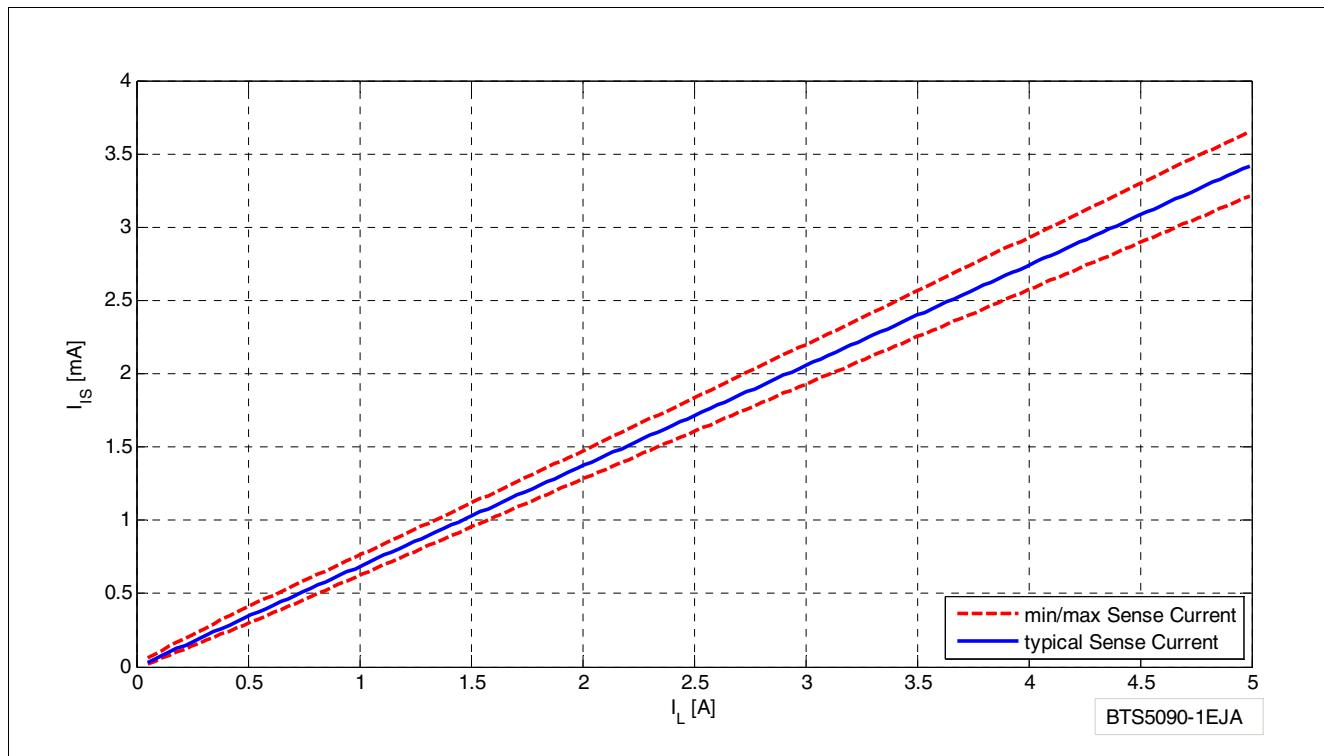
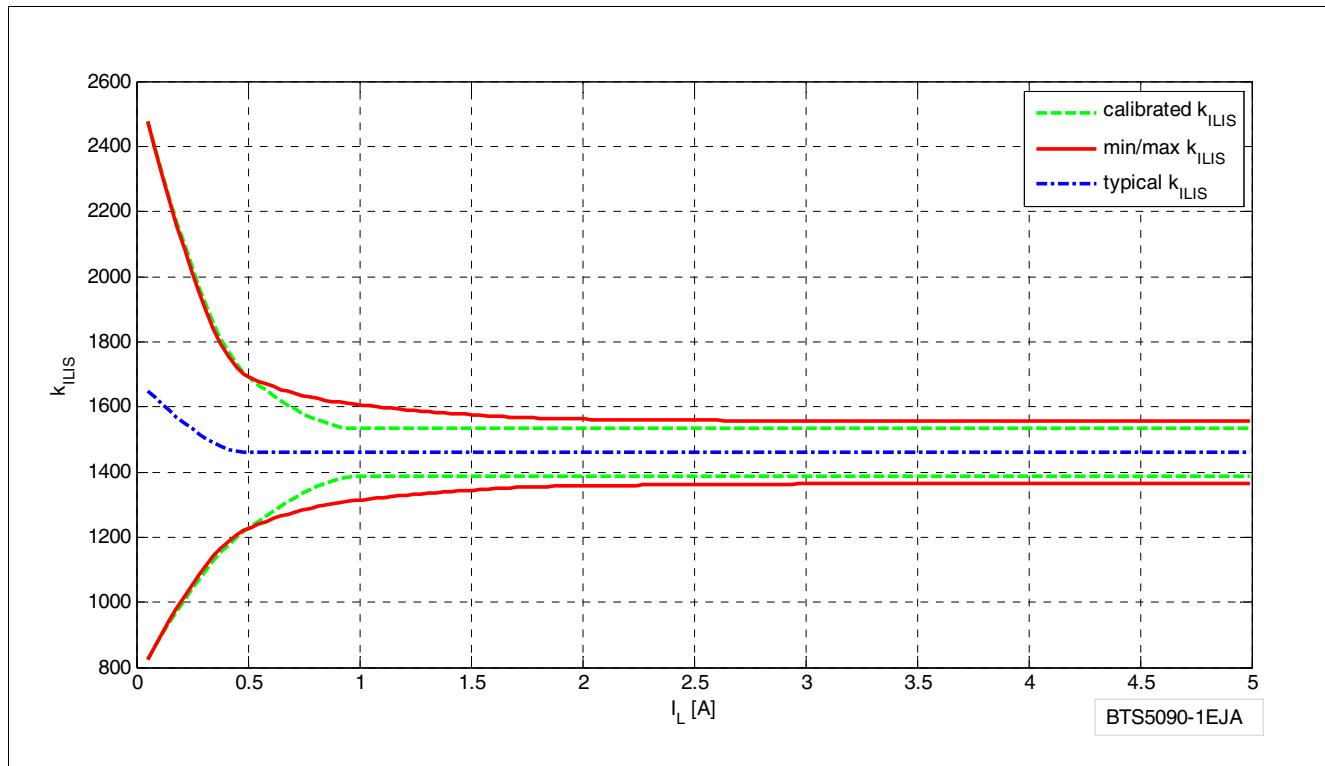

Figure 21 Current Sense for Nominal Load
Figure 22 Improved Current SENSE Accuracy with One Calibration Point at 1A
**Figure 21** and **Figure 22** show the current sense as a function of the load current in the power DMOS. Usually, a pull-down resistor  $R_{IS}$  is connected to the IS pin. This resistor has to be higher than  $560\ \Omega$  to limit the power losses in the sense circuitry. A typical value is  $1.2\ k\Omega$ . The blue curve represents the ideal SENSE, assuming an ideal  $k_{ILIS}$  factor value. The red curves show the accuracy the device provides across full temperature range, at a defined current.
In some applications a better accuracy is required around half the nominal current  $I_{L(NOM)}$ . To achieve this accuracy requirement, a calibration on the application is possible. To avoid multiple calibration points at different load and temperature conditions, the BTS5090-1EJA allows limited derating of the  $k_{ILIS}$  value, at a given point ( $I_{L3}$ ;  $T_J = +25\ ^\circ\text{C}$ ). This derating is described by the parameter  $\Delta k_{ILIS}$ . **Figure 22** shows the behavior of the SENSE current, assuming one calibration point at nominal load at  $+25\ ^\circ\text{C}$ .